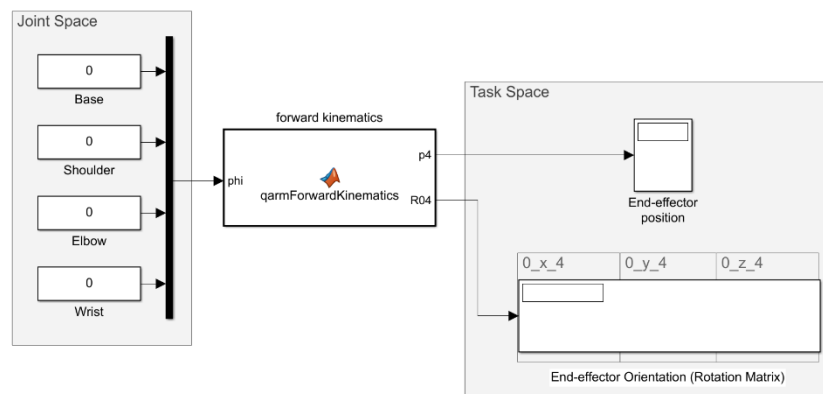

Figure 1: Forward Kinematics Simulink model.
1. Open the ForwardKinematics.slx model via MATLAB. This will be used to implement and validate your forward kinematics formulation. The 'Task Space' section will display the position and the orientation matrix of the end-effector frame with respect to the base frame corresponding to the static joint configurations described in the 'Joint Space' section, as shown in Figure 1.
4. Complete the DH Table below for the QArm manipulator based on the schematic in Figure 1 from the Workspace Identification Application Guide.
The first plot (Figure 1: QArm Workspace) provides a 3D plot of the end-effector trajectory. It draws the end-effector trajectory of the manipulator in 3D to help you visualize the end-effector motion